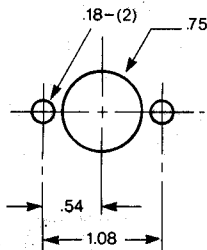

Fig. 3: Panel Holes Required (Inches)
a) Figure 3 shows the panel holes required for mounting the Model 7125. In addition you may need a hole to run the two vent tubes through the panel. Maximum panel thickness is 0.19". To mount the valve, first remove the knob by loosening the two knob set screws. Use the two #8-32 screws supplied to fasten the valve to the panel.
The three small set screws in the stator (see Figure 3) have been factory-set so that when the three stator screws are fully tightened, the spring force between the valve rotor and stator is sufficient to hold 34 MPa (5000 psi). If leakage is to be corrected, or if operation up to 48 MPa is to be done, proceed as follows: The three set screws should be **loosened** about 1/20 turn each (18° of rotation) and the three stator screws **tightened** an equal amount. If this new setting fails to accomplish leak-free operation, repeat the procedure by an additional 1/20 turn. Avoid excessive tightening which will accomplish nothing but increased wear of the rotor seal. If it is necessary to loosen spring tension, either to